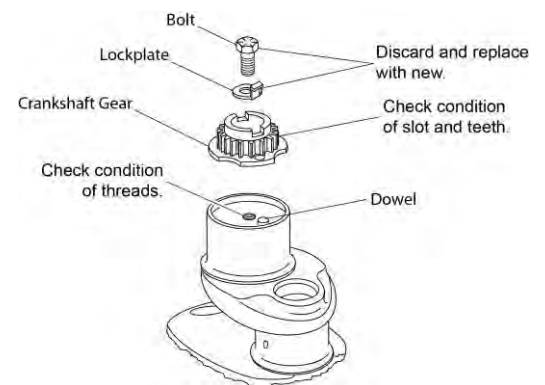

Figure 20
- B. Remove the crankshaft gear bolt, lockplate, and crankshaft gear from the crankshaft (Figure 20). Discard the bolt and the lockplate.
NOTICE: Any time the crankshaft gear bolt (Figure 20) is removed from the crankshaft, discard this bolt and replace it with a new bolt during assembly.
Do not remove the alignment dowel (Figure 20) from the end of the crankshaft unless it is damaged. Replace a damaged alignment dowel per the “Alignment Dowel Replacement” procedure in this chapter.